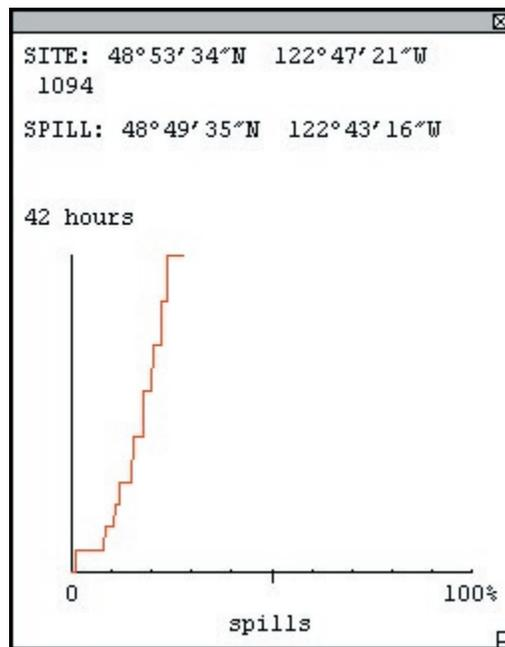

Figure 34. Example of Response Time Analysis graph
- 4 Click on the arrow tool. Click on Point Whitehorn. A graph appears: See figure 34.